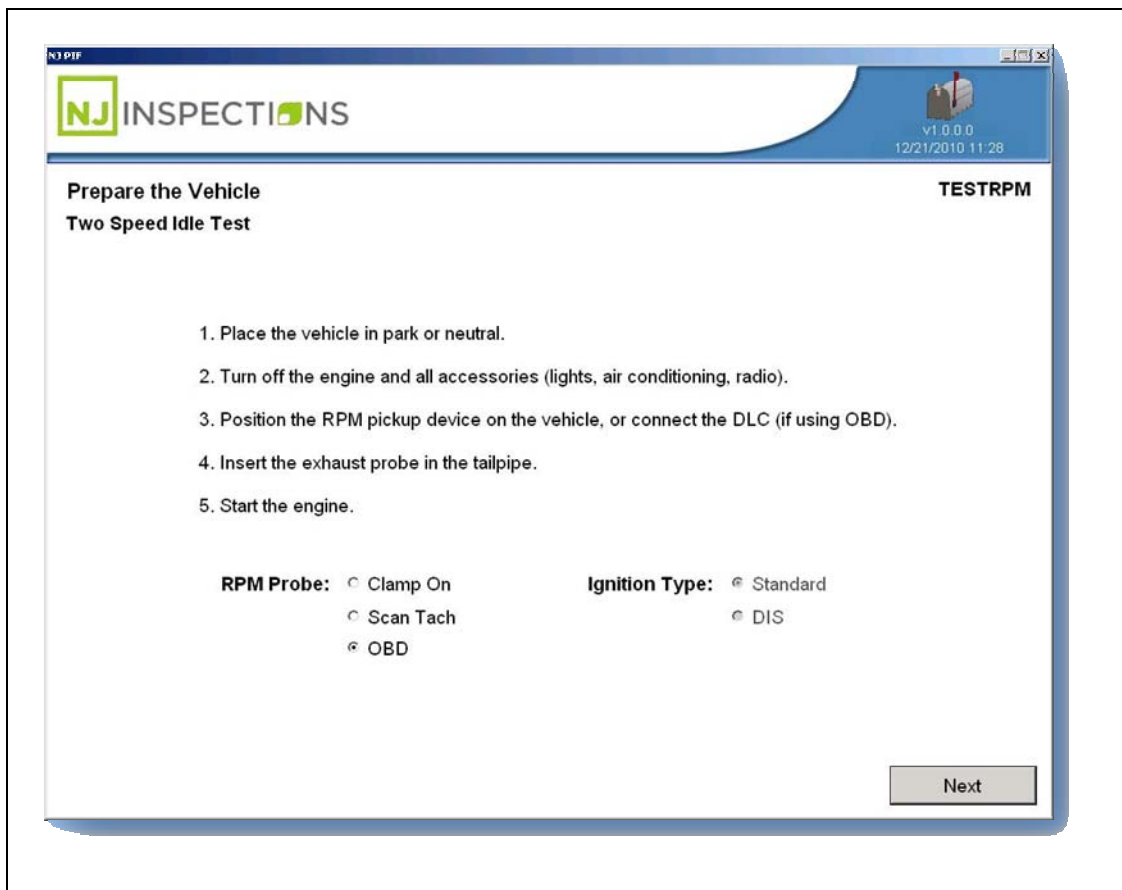

Figure 3-1: “Prepare the Vehicle” OBD RPM
- For 1996 and newer vehicles select “**OBD**” as the RPM Probe. (See Figure 3.1)